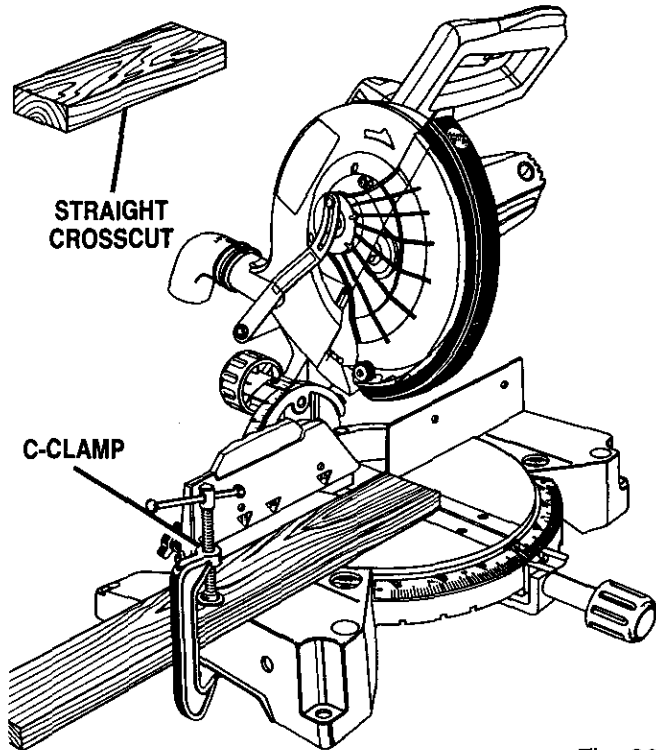

Fig. 26
See Figure 26.
- Grasp the stock firmly with one hand and secure it against the fence. Use the work clamp or a C-clamp to secure the workpiece when possible. See Figure 26.
- Slowly lower the blade into and through the workpiece. See Figure 26.